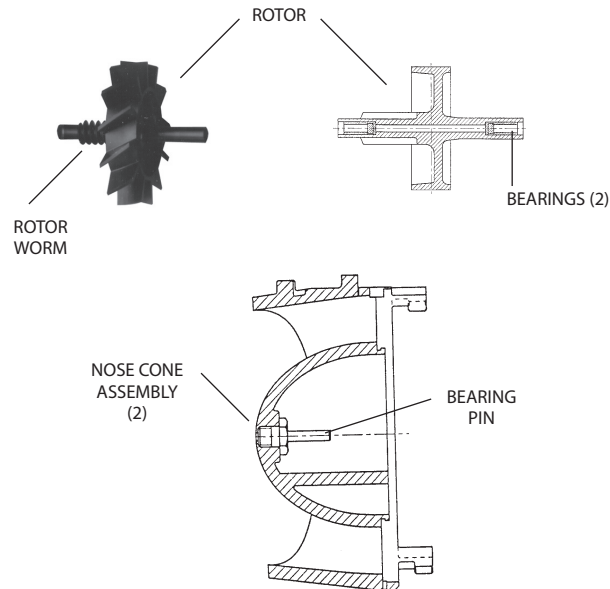

Figure 12: Rotor and nose cone assembly (2", 3", 4" and 6" turbo head assemblies)
2. Take hold of the nose cone/straightening vanes and turn them clockwise, thereby disengaging the calibration linkage from the tab on the calibration ring and unlocking the bayonets of the nose cones from the cage (see Figure 12).
Check the rotor worm and blades for signs of damage and wear. Also inspect the bearing bushings in the front and rear shaft. If damage or wear has occurred, replace the part (see Figure 12). If water deposits are found, remove any mineral deposits from the rotor blade surfaces, cage insert interior diameter, and nose cone vanes and mating surfaces.
Inspect the rotor bearing pins in the straightening vane and nose cone assembly for signs of damage and wear (see Figure 12). The spherical end of the bearing pin must not show any drag lines and/or wear.